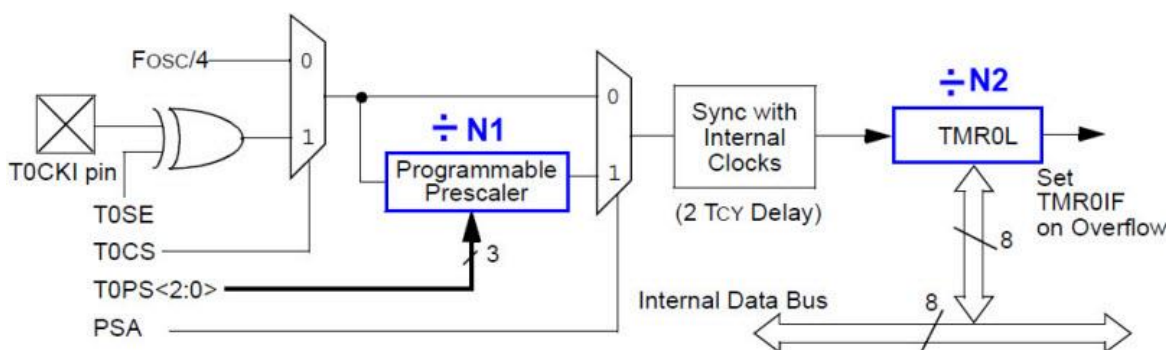

Fig. 7
- Picture Fig. 7 shows the main hardware blocks of the Timer0 peripheral. Explain how to use it along with a software post-scaler RAM variable (**N3**) to generate the delay times for this application. Calculate the values N1, N2 and N3 to be able to program delays from 1 ms to 255 ms. Calculate the values N1 and N2 to program the 20 μ s delay to generate the pulse.